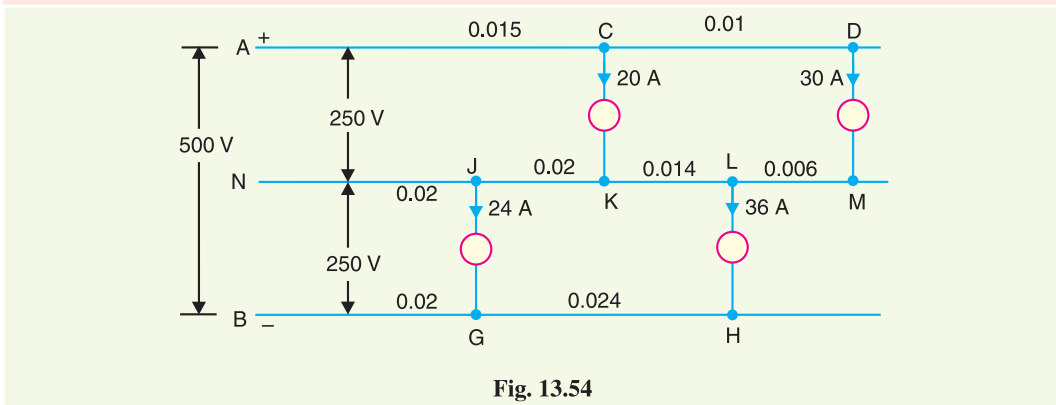
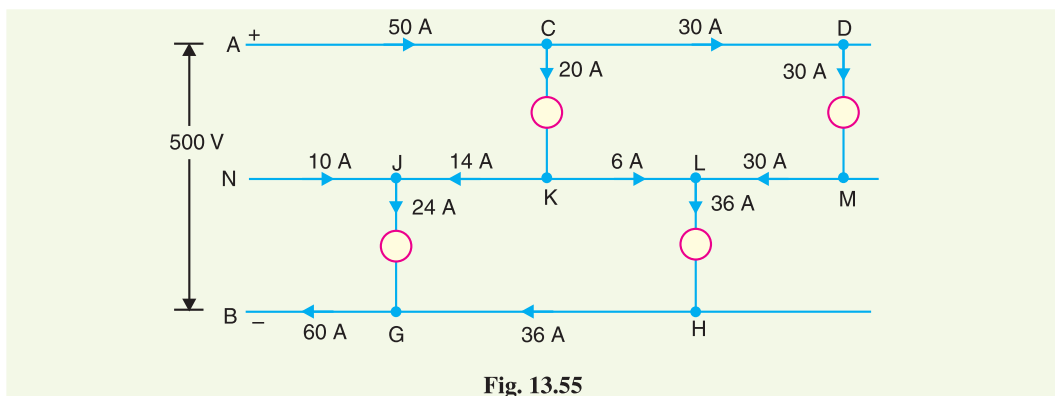

Fig. 13.54
Fig. 13.55
**Example 13.29.** A 3-wire, 500/250 V distributor is loaded as shown in Fig. 13.54. The resistance of each section is given in ohm. Find the voltage across each load point.
**Solution.** From the current loading given in Fig. 13.54, we can find the magnitudes and directions of currents in the various sections by applying Kirchhoff's current law. Fig. 13.55 shows the magnitudes and directions of currents in the various sections.